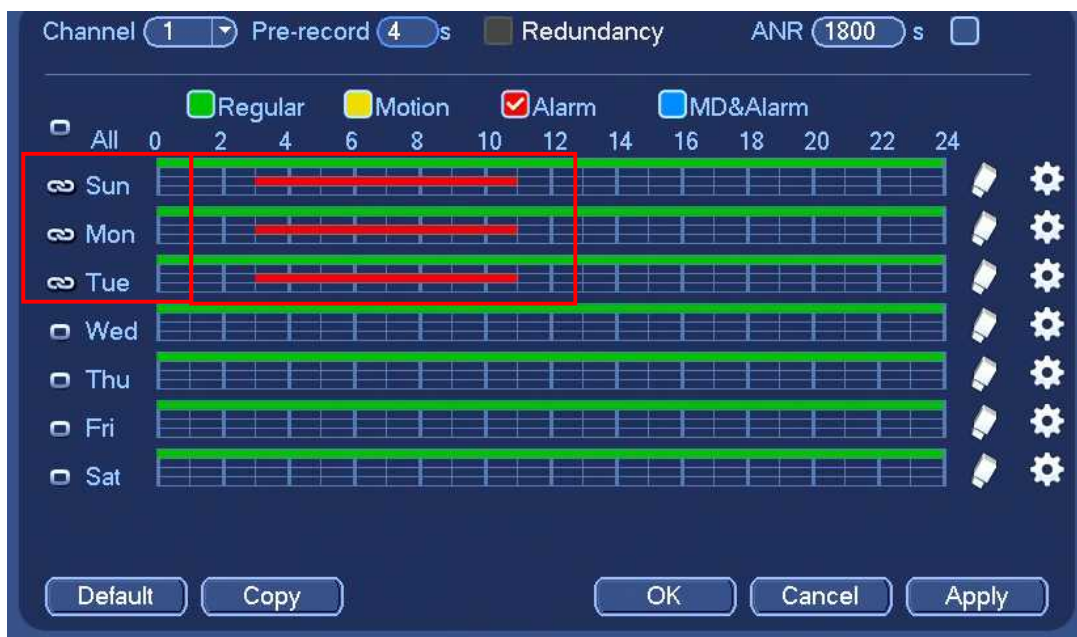

Figure 3-8
- Please draw manually to set record period. There are six periods in one day. See Figure 3-8.